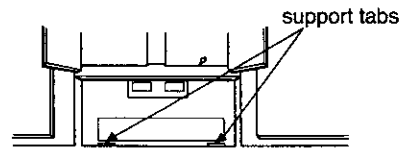
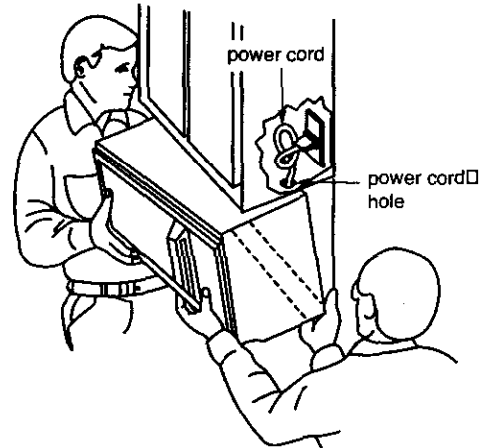

Figure 28 □
Figure 32
3. Place the mounting plate against the wall and match the screw holes. See Figure 28.
1. Carefully lift microwave oven and hang it on support tabs (See Figure 28 at the bottom of the mounting plate. Reaching through upper cabinet, thread power supply cord through the power supply cord hole in the bottom of the upper cabinet. See Figure 32.